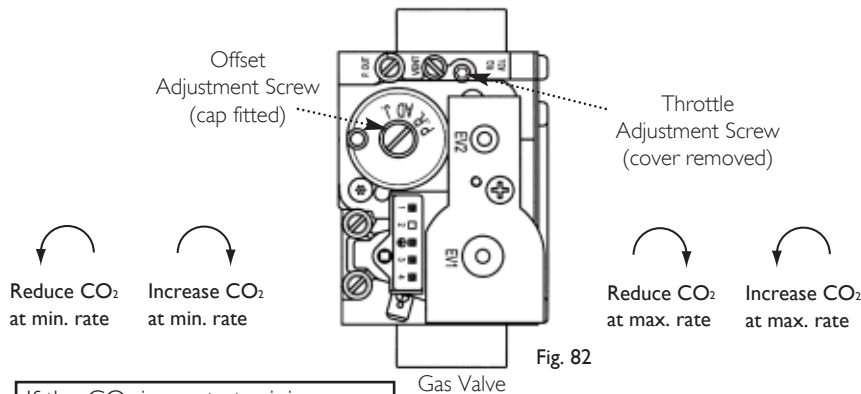

Fig. 82
8. It is possible to alter the CO₂ by adjustment of the gas valve. Remove the plastic cover from the Throttle Adjustment Screw. At maximum rate the Throttle Adjustment Screw should be turned, using a suitable hexagon key, until the correct reading is obtained (Fig. 82). Turning clockwise will reduce the CO₂. Anticlockwise will increase the CO₂.
10. With the boiler on minimum, the Offset Adjustment Screw must be altered, using a suitable hexagon key, after removing the cap (Fig. 82). Turning anti-clockwise will reduce the CO₂. Clockwise will increase the CO₂.